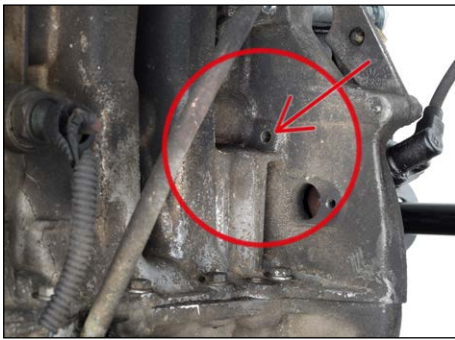

Fig. 4
3. Check position of crankshaft. To do so, lock flywheel through bore above oil filter at gearbox flange connection (Figs. 4 and 5) using locking tool for flywheel OE (4507-T.A), Tool Box V03/2. Insert locking tool into flywheel bore.
Check position of crankshaft. To do so, lock flywheel through bore above oil filter at gearbox flange connection (Figs. 4 and 5) using locking tool for flywheel OE (4507-T.A), Tool Box V03/2. Insert locking tool into flywheel bore.